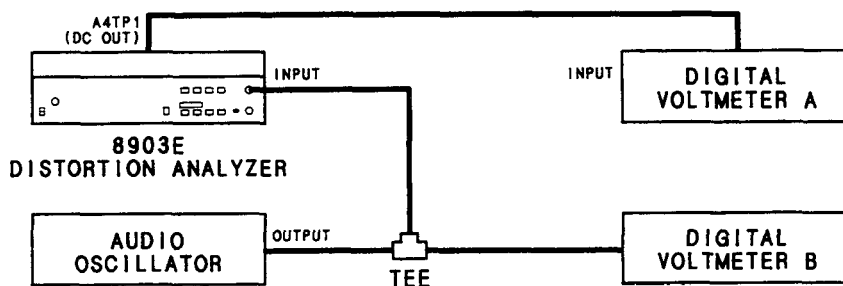

Figure 5-7. Voltmeter Adjustment Test Setup
*Voltmeter A is optional. If one voltmeter is used, connect it, as required, between the points indicated in the procedure and Figure 5-7. Set it to read dc volts when connected to A4TP1 and ac volts when connected to the tee at the Distortion Analyzer's INPUT. Record the readings for comparison in subsequent steps.*
2. Connect the equipment as shown in Figure 5-7. Connect voltmeter B to A4TP1 (DC OUT) and set it to measure dc volts. Set voltmeter A to measure ac volts. Set the audio oscillator to 2.5 Vrms at 1 kHz.